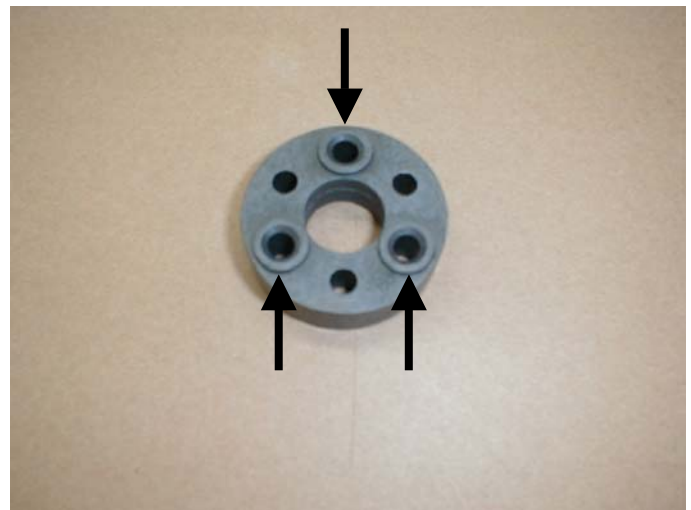

Figure 12
CAUTION: Insert the attachment pins only into the holes with flanged openings (Arrows, Figure 12). These flanges must touch the surface of the drive gear.
9. Align the nose drive gear pins (Figure 13) to the holes with flanged openings on the Phenolic block (refer to Figure 12) and press the block into position (Figure 14).